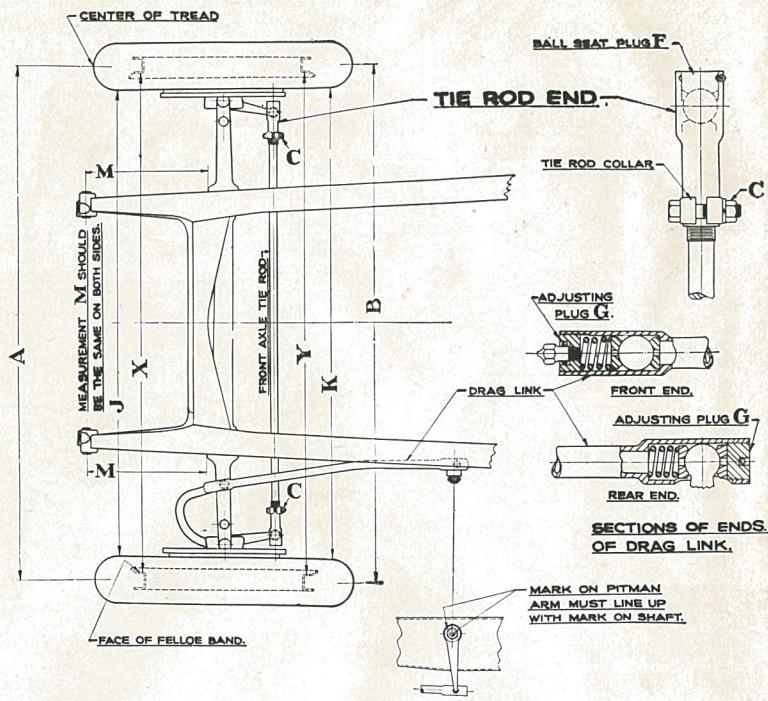

Fig. 64. Wheel Toe-in
See Fig. 64.
7. TAKE LOOSENESS OUT OF FRONT AXLE TIE ROD. See Fig. 64.